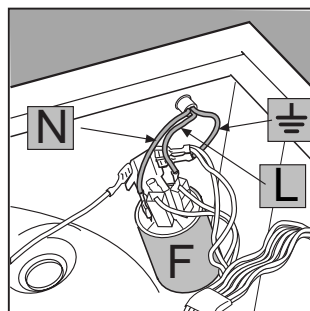

Fig. 4
**3. Disconnect the wires** from the radio interference suppressor **F** [fig. 4] noting as to their position (**Blue=N** wire; **Brown=L** wire) leaving the earth wire until last  $\perp$ .